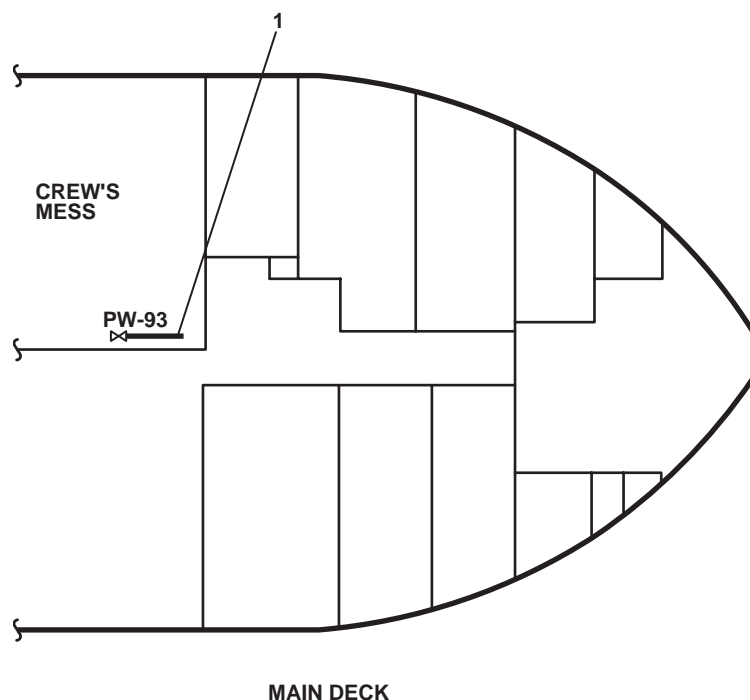

Figure 22. Ice Maker Valve Location
2. OPEN valve PW-93, C.W. TO ICEMAKER (figure 22, item 1).
- a. CLOSE valve PW-93, C.W. TO ICEMAKER (figure 22, item 1).